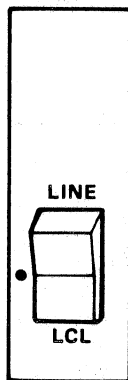

Figure 4-1. LINE/•/LCL Switch
1. Place the LINE/•/LCL switch in the LCL position (Figure 4-1).